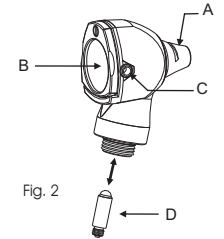

Fig. 2
With the VISIO 2000 F.O. Otoscope, first unlock the head from the handle and pull the lamp (D) downwards as in Fig.2. Push in the new lamp.